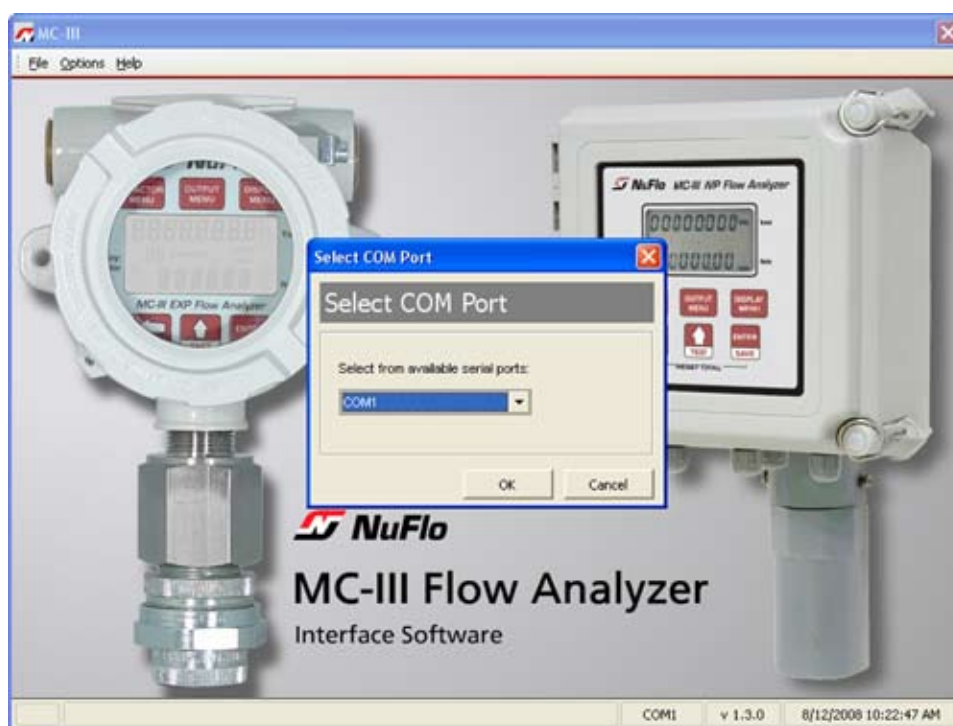

Figure 4.2—Select COM Port window
The Help menu, accessible from the task bar at the top of the Welcome screen (Figure 4.2, page 36), provides easy access to documentation designed to assist the user in installing, configuring, and operating the MC-III EXP flow analyzer. This documentation includes:
1. Click on the NuFlo MC-III icon on the desktop, or select Start>Programs>NuFlo>MC-III>MC-III. The Welcome screen (Figure 4.2) will appear and a Select COM Port window will prompt the user to select a communications port be used for connecting with the MC-III EXP (Figure 4.2).